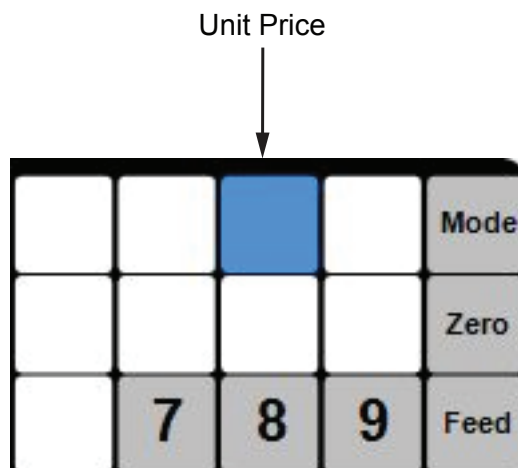

Figure 29-2
9. Double click on the applicable preset key. The Edit Preset Key - SlpNet.mdb dialog box will display. See Figures 29-2 and 30-1.
13. Double click on the applicable preset key. The Edit Preset Key - SlipNet.mdb dialog box will display. See Figures 29-2 and 30-1.